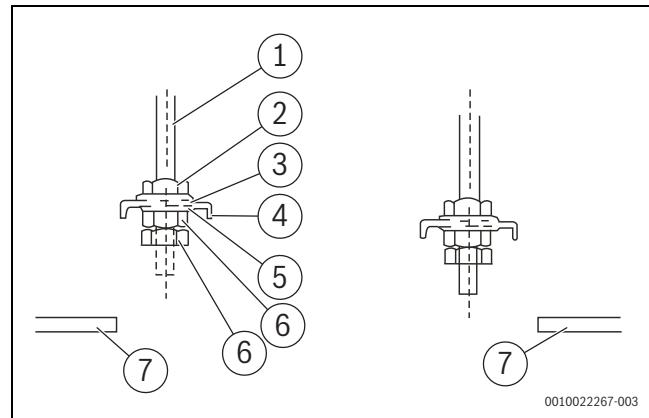

Fig. 13
5. Adjust the positions of the nuts. The size of the gap between the washer (bottom) and the ceiling should be based on the actual construction works (→ figure 13).